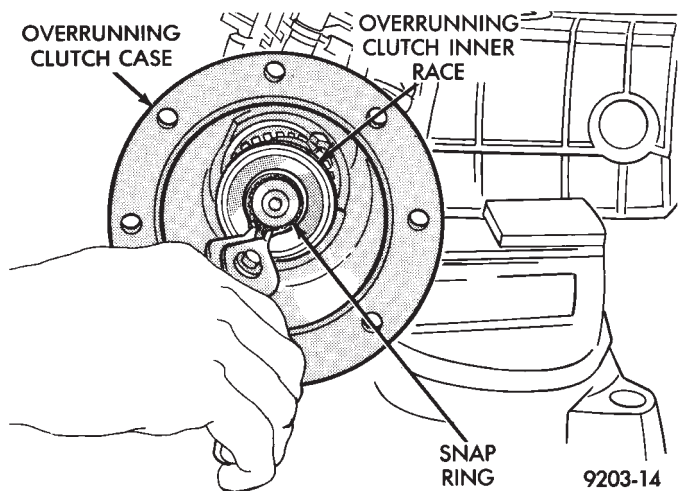

Fig. 12 Inner Race Snap Ring Removal
(10) Remove overrunning clutch inner race snap ring (Fig. 12).